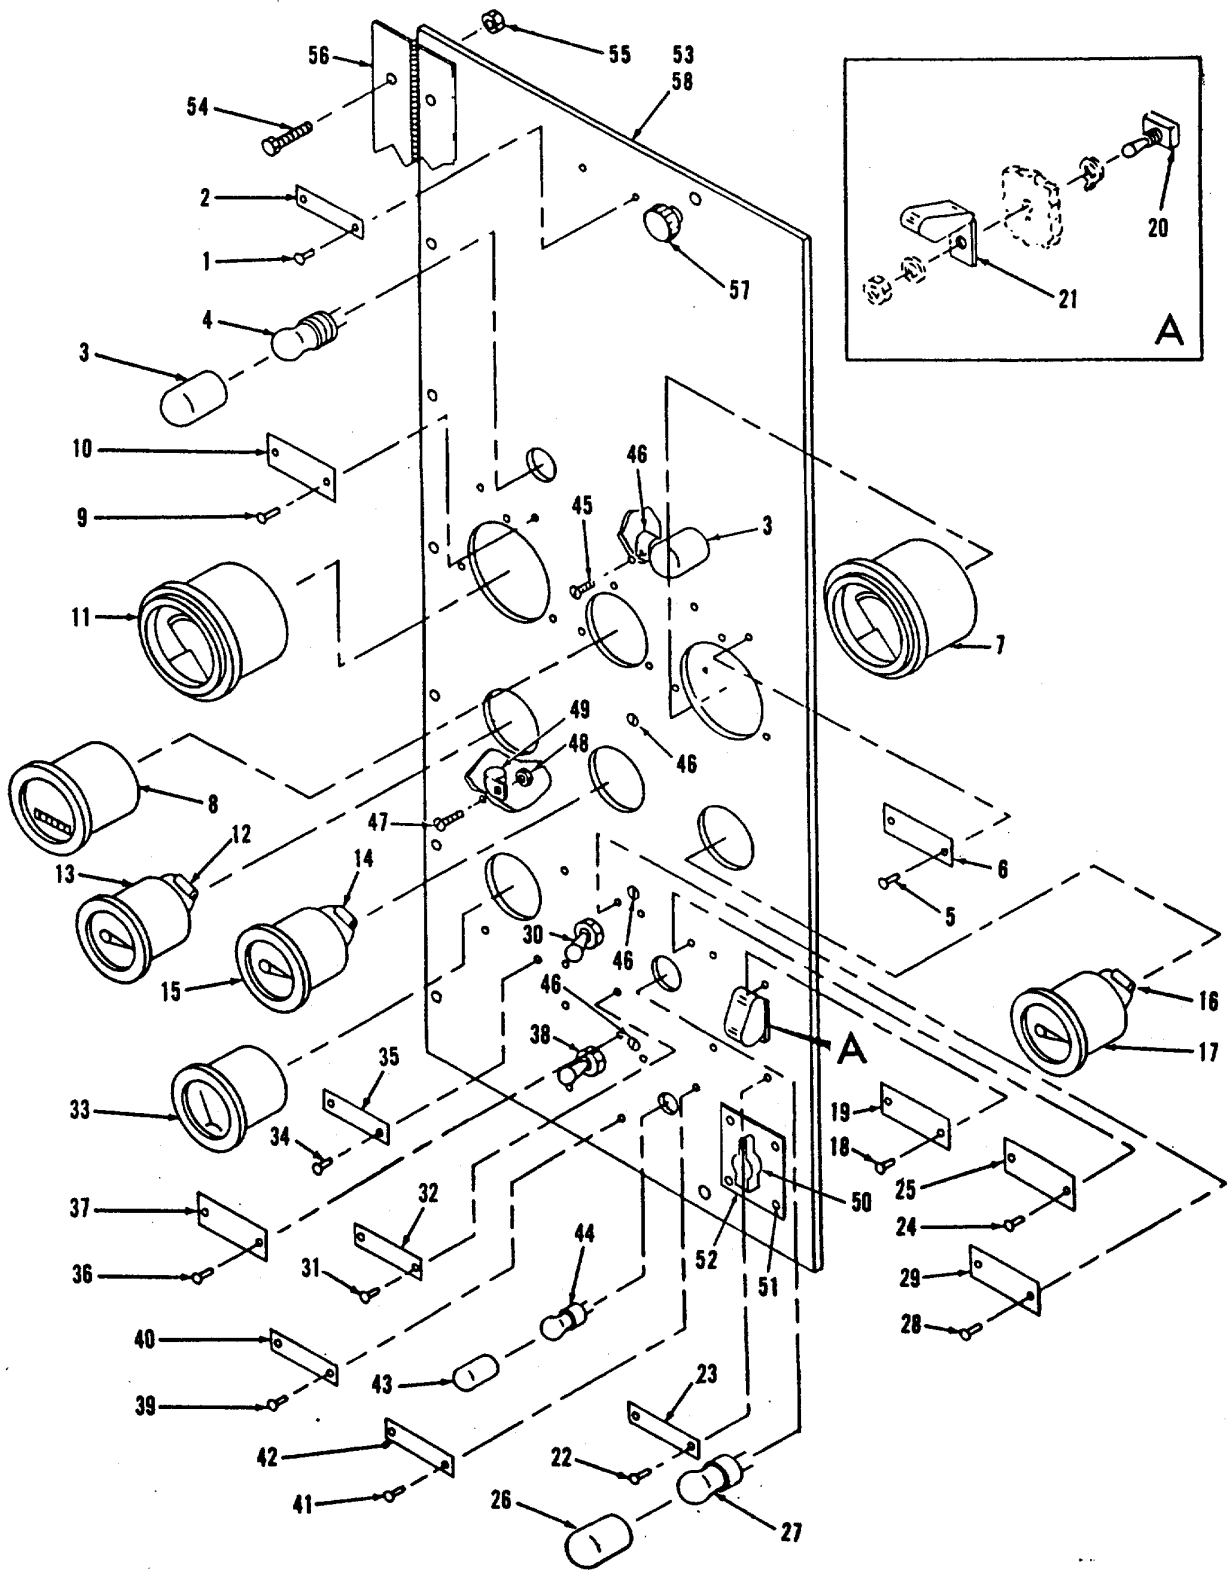

Figure 4-21. Control Cubicle, Engine Panel, Exploded View
**4-40.** The control cubicle contains four major assemblies, the engine control panel (see figure 4-21), the generator control panel (figure 4-22), the component shelf (see figure 4-20, sheet 2) and the rear relay panel (see figure 4-20, sheet 3).
- (2) Inspect two lamps on engine panel, and four lamps on generator panel.
- (3) Inspect transducers, relays, and time delay modules for looseness and poor
LEGEND FOR FIGURE 4-21